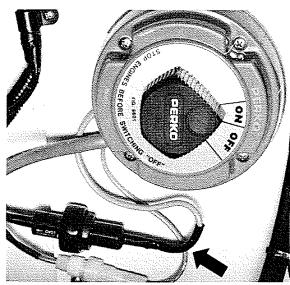

Figure 20
**NOTE: An inline fuse protects the automatic bilge pump. The fuse is on the aft side of the battery switch. See figure 20.**